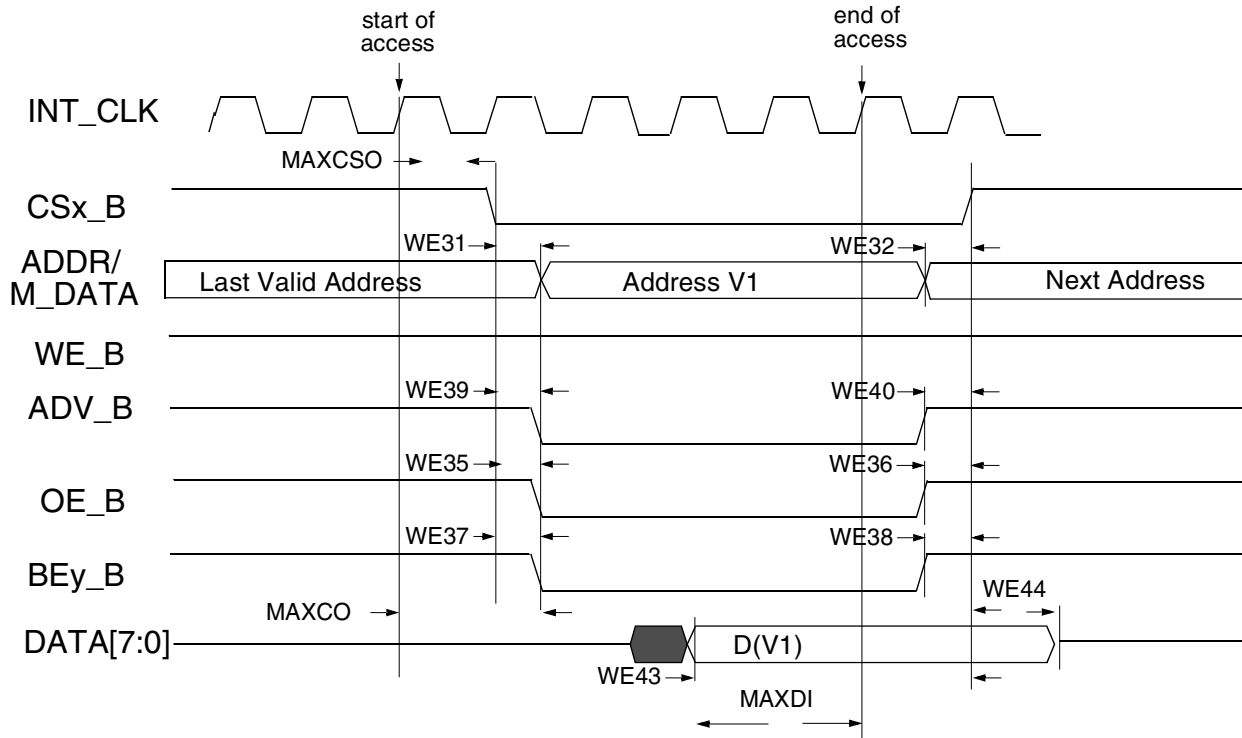
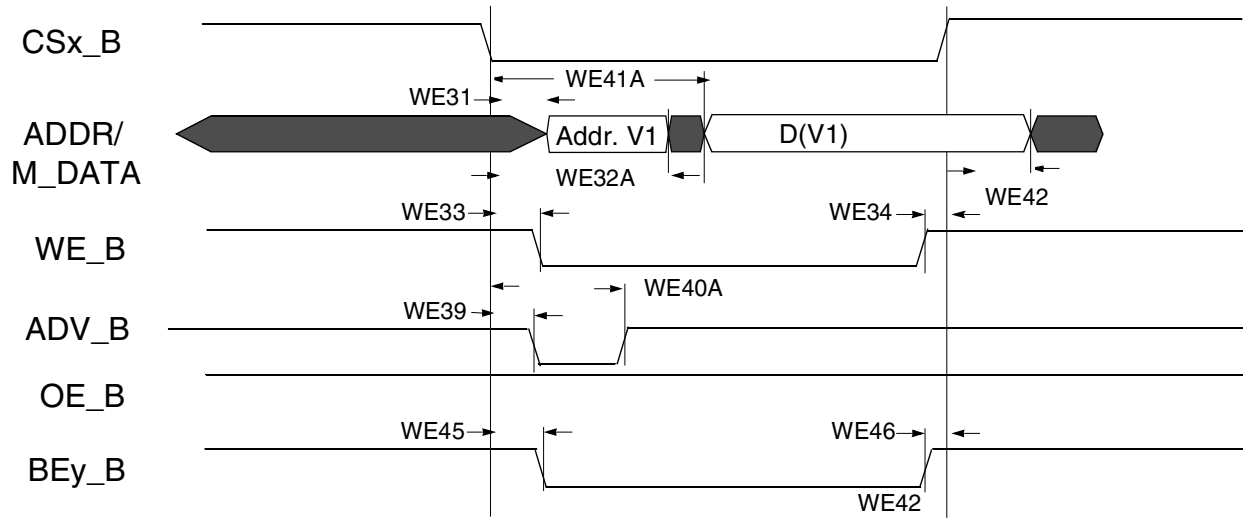
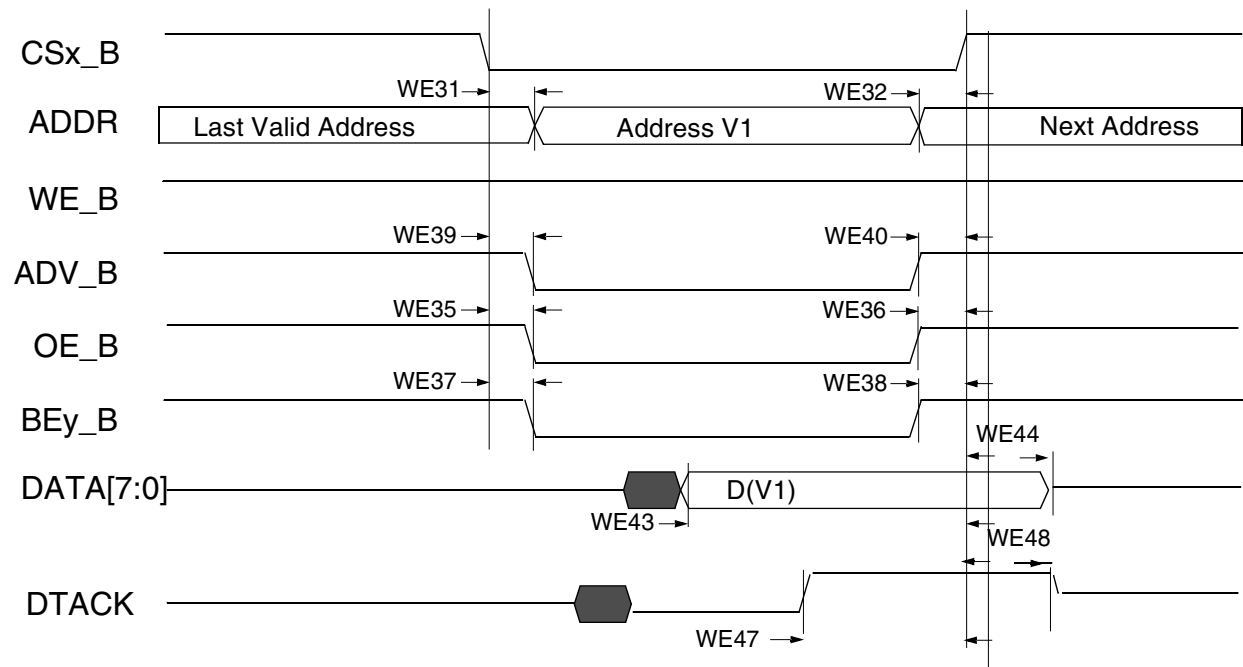

Figure 16. Asynchronous Memory Read Access (RWSC = 5)
Figure 19. Asynchronous A/D Muxed Write Access
Figure 20. DTACK Read Access (DAP=0)
Figure 16 through Figure 20, and Table 38 help you determine timing parameters relative to the chip select (CS) state for asynchronous and DTACK EIM accesses with corresponding EIM bit fields and the timing parameters mentioned above.
Asynchronous read & write access length in cycles may vary from what is shown in Figure 16 through Figure 19 as RWSC, OEN & CSN is configured differently. See the i.MX 6SoloLite reference manual for the EIM programming model.